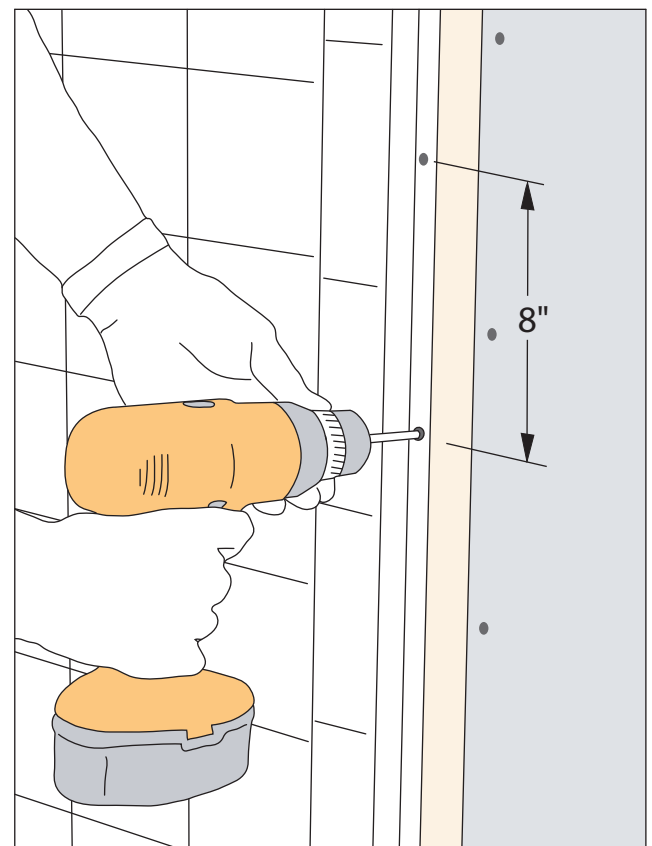

Figure 13
13. Shim behind all wall panels as needed and screw the flange to the studs at 8" intervals. **See Figure 13**